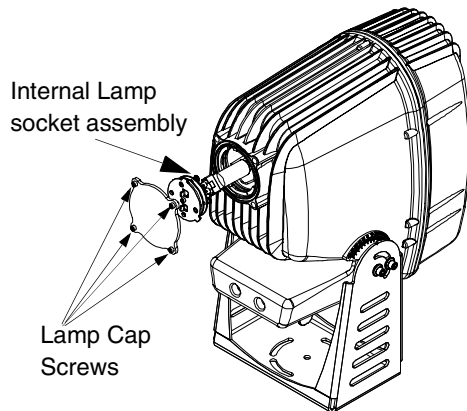

Figure 3-1 Activating the Lamp Interlock switch to Copy the Boot code
1. Locate the lamp cap screws shown in Figure 3-1 and loosen with the 9/64in. allen wrench.